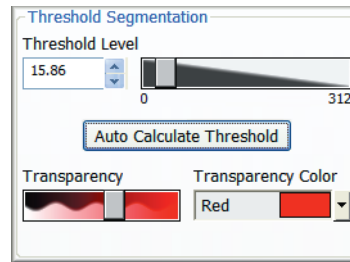

Figure 55. Threshold Segmentation
4. After a threshold is set, the image will have an overlay showing the regions that were measured, as shown in Figure 55).
1. Use the **Transparency** slider (in Figure 55) on the **Measure** panel to change how much measurement regions block the image behind it. Moving this slider all the way to the left makes the region transparent (except for its outline). Moving the slider all the way to the right fills the region with the selected color.